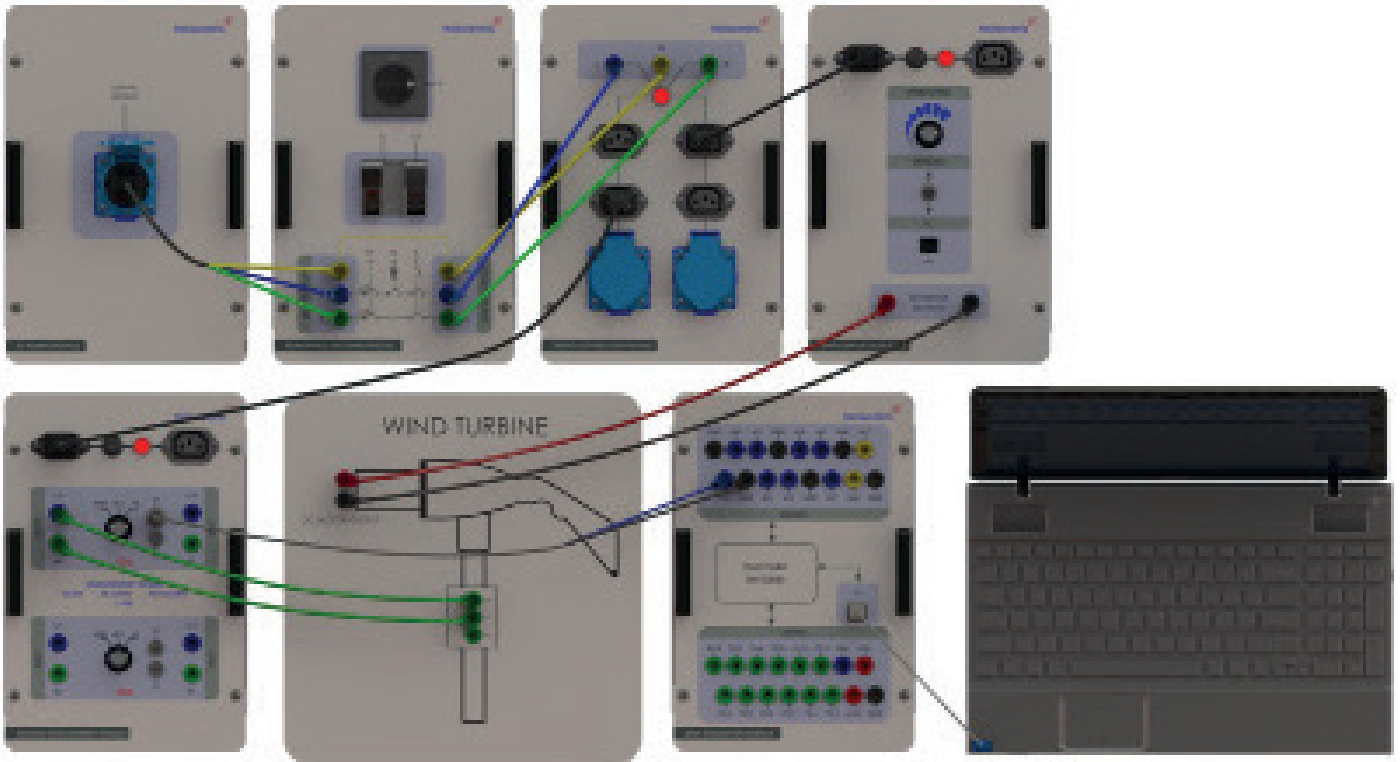

Figure-1
- 1) Connect as shown in figure-1. Stabilize the wind turbine by locking its legs.